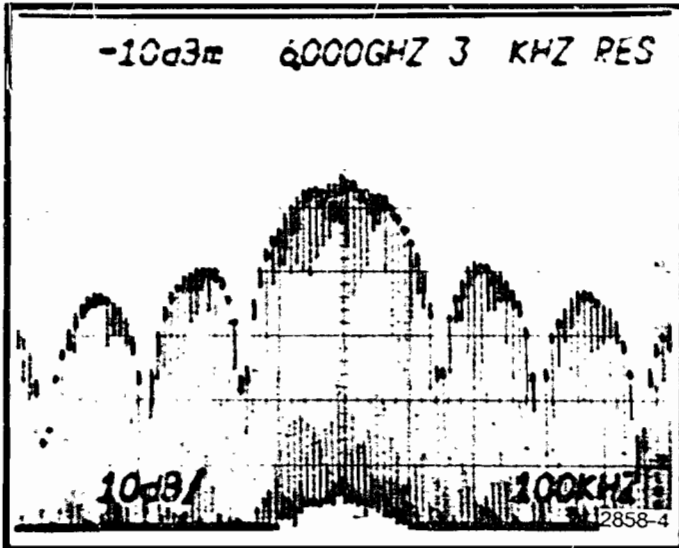
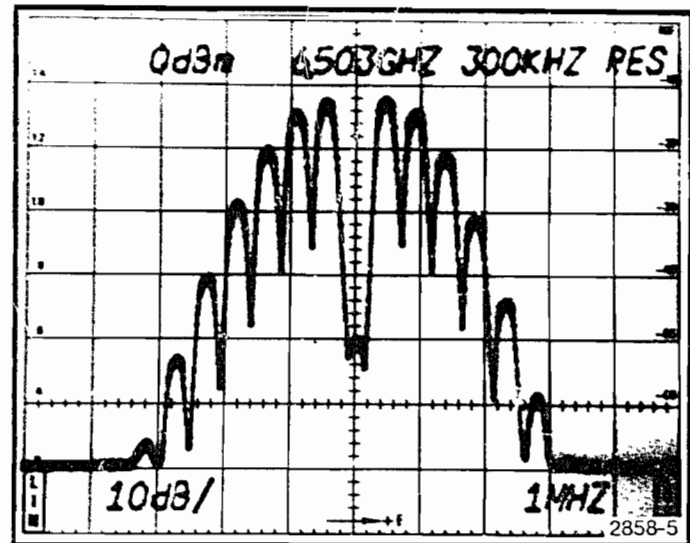

Fig. 2-2. Typical pulse response display with a pulse width of  $6.6 \mu\text{s}$ . For best results, use a pulse width  $\geq 5 \mu\text{s}$ .
Fig. 2-3. Typical display of a frequency modulation envelope.
5. **Providing Simulated Pulse and Frequency Modulated Displays.** Figure 2-2 and Figure 2-3 illustrate examples of simulated pulse and frequency modulated displays. These displays provide a good indication of the analyzer's resolution and bandpass characteristics at the higher frequencies (into the GHz range).